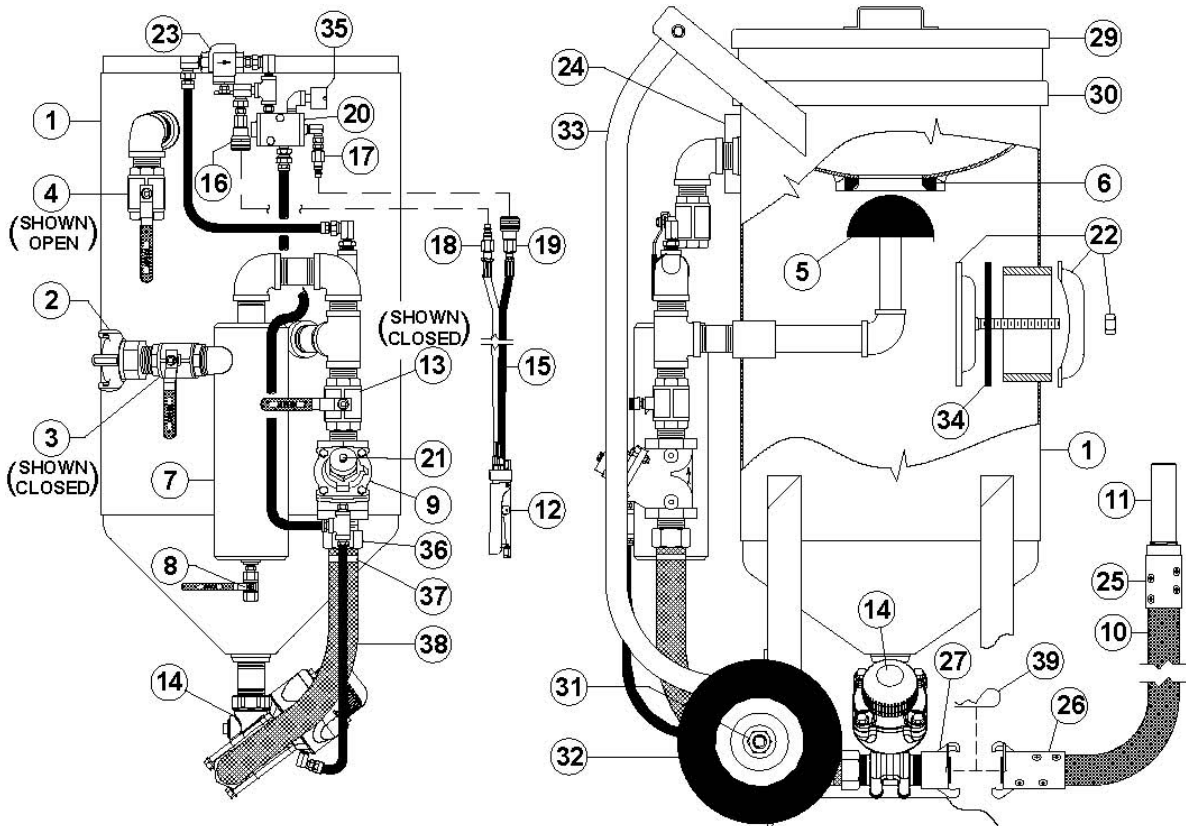

Figure 7.3 – Thompson Valve Abrasive Blaster with pneumatic deadman controls
- 7.3.6. Close the blowdown ball valve (#4). The ball valve is closed when the handle is perpendicular to the body (See Figure 7.3).